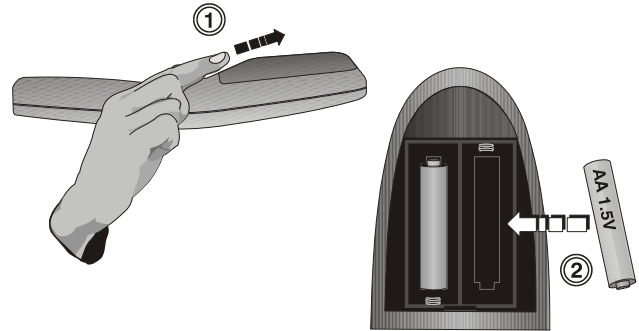

Figure 4.1. Replacing Batteries
- 1) Open the battery compartment at the backside of the keypad by placing your thumb in the oval depression and sliding the cover out about ½ inch. See **Figure 4.1**. Remove the old batteries and properly discard. Wait a minute or two.